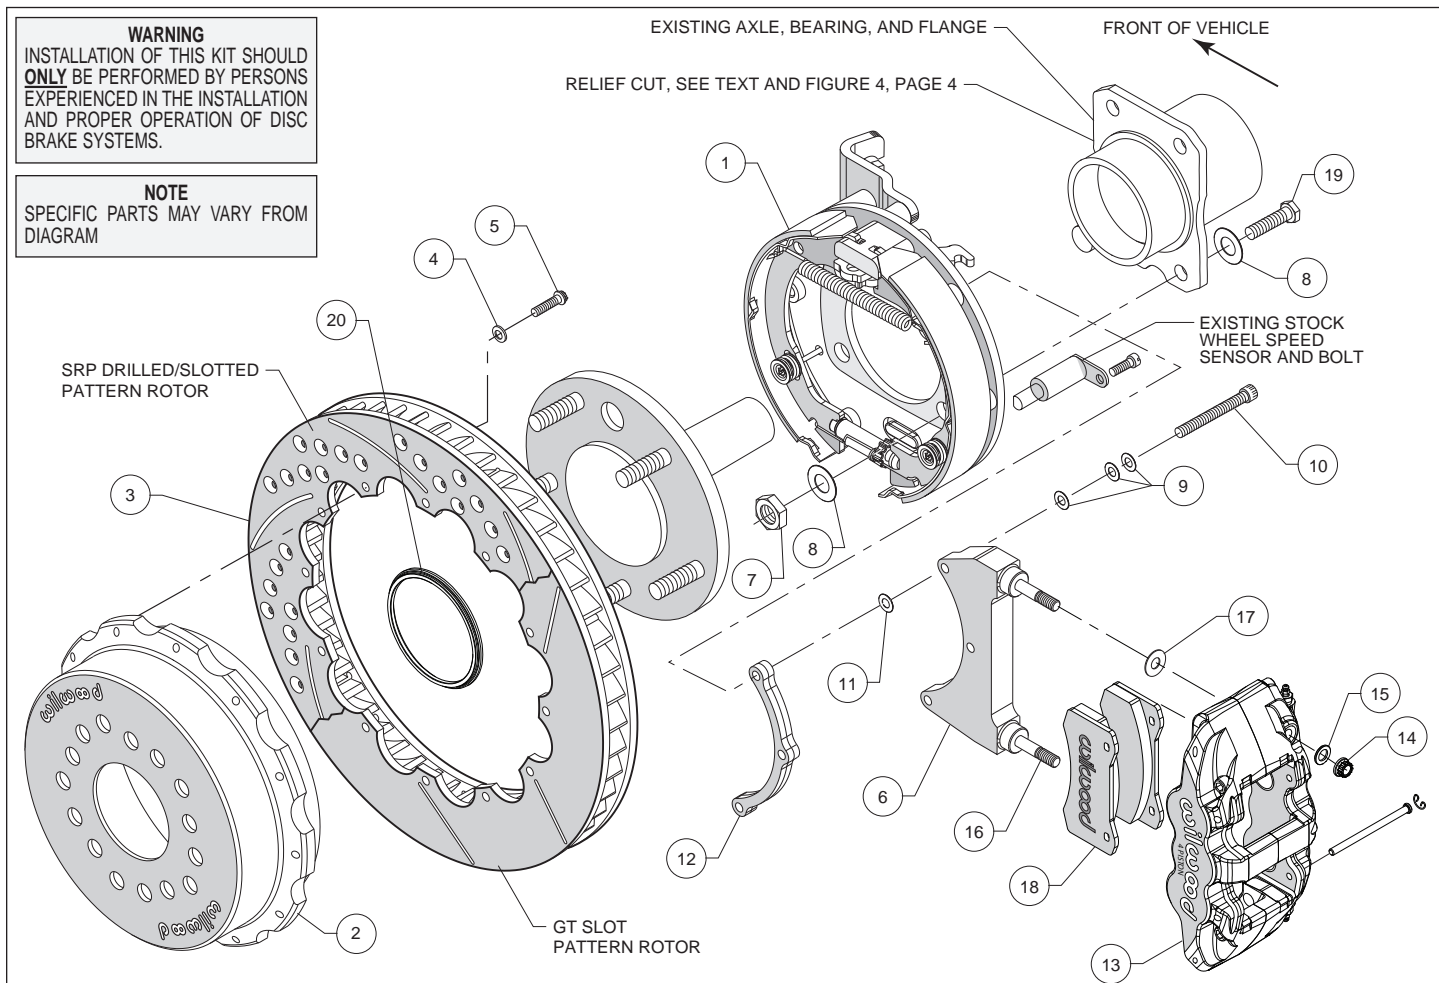

Figure 1. Typical Installation Configuration
- Slide the rotor registration adapter (20) onto the axle register on the axle flange with the smaller O.D. facing toward the rotor/hat (2). Align the correct hole pattern in the hat with the stud pattern on the axle flange. **NOTE:** Some OEM and aftermarket axles come with stud sizes larger than 0.50" diameter. Verify stud size and have a qualified machine shop drill the hats to the correct size, if necessary. Slide the hat/rotor assembly (2 and 3) over the wheel studs covering the bracket kit assembly (1) and against the axle flange face. Check to be sure the hat seats squarely against the hub. Install three lug nuts (finger tighten) to keep the rotor/hat assembly in place while continuing with the installation.
- NOTE:** Please reference the caution statement at the beginning of the assembly instructions. The caliper mounting bracket assembly (6) should be installed first with clean, dry threads on the mounting bolts (10). Install the bracket from the rear side of the bracket kit assembly (1) by sliding bolt (10) through three flat washers (9), bracket (6), shim washer (11) and finally through the spacer (12), see Figure 1. **NOTE:** End of bolt should not exceed inside face of insert. The bracket must tighten squarely against the back side of the bracket kit assembly (1). Inspect for interference from casting irregularities, machining ridges, burrs, etc. Use one thin shim (11) between the bracket (6) and spacer (12) during initial trial fitting.
- Lubricate caliper mounting studs and nuts with lightweight oil. Install one washer (17) over each pre-installed stud (16) on the radial mount bracket (6). Slide the caliper (13) in place over the studs and rotor, then install the washer (15) and lock nut (14) to hold the caliper in place. The caliper bleed screws should be pointing up. Snug the lock nuts (14) and check that the rotor (3) is centered in the caliper (13). Add or subtract .015" shims (11) as necessary between the caliper mounting bracket (6) and the spacer (12) to center the caliper (13).
- Remove the two pad retaining pins from the caliper (13) by carefully popping out the pin retaining clips and sliding out the pins. Insert the brake pads (18) into the caliper from the bottom, Figure 1. With the friction material facing the rotor, secure the brake pads in place with the pad retaining pins and clips. Reinstall the caliper onto the caliper mounting bracket and temporarily tighten the lock nuts. Check that the top of the brake pad is flush with the outside diameter of the rotor. If not, adjust by adding or subtracting shims (17) between the caliper and the bracket.
- Adjust the parking brake shoes outward (using a drum shoe adjustment tool available at your local auto parts store) while spinning the hat (2) until a slight drag is felt against the hat/drum. Remove the lug nuts that were holding the hat/rotor in place. Install the wheel and lug nuts. Check to see that the wheel rotates freely without interference.
- Once all clearances have been checked, remove the wheel, caliper, hat/rotor from the bracket kit assembly (1). Secure the caliper mounting bracket (6) to the bracket kit assembly (1) using red *Loctite*® 271. Torque bolts (10) to 180 **in-lb**. Reinstall the hat/rotor assembly and again use lug nuts to hold it in place. Reinstall the caliper, torque the caliper nuts (14) to 47 **ft-lb**.
- NOTE:** Clevis and cable kits which attach to the parking brake assembly are not included in the Wilwood parking brake kit. Wilwood offers a parking brake cable kit, P/N 330-11221 for 2005-2010 and P/N 330-12335 for 2011-present which can be ordered separately from your local Wilwood dealer or by calling Wilwood customer service at (805) 388-1188.